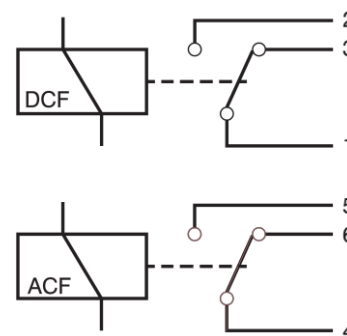

fig 4 - 10
- The power supply has 2 status relay outputs, with each a change-over contact. They are connected to connector CON D. The pins 1,2,3 are connected to the DCF-relay and pins 4,5,6 to the ACF-relay (see fig. 4 - 10).